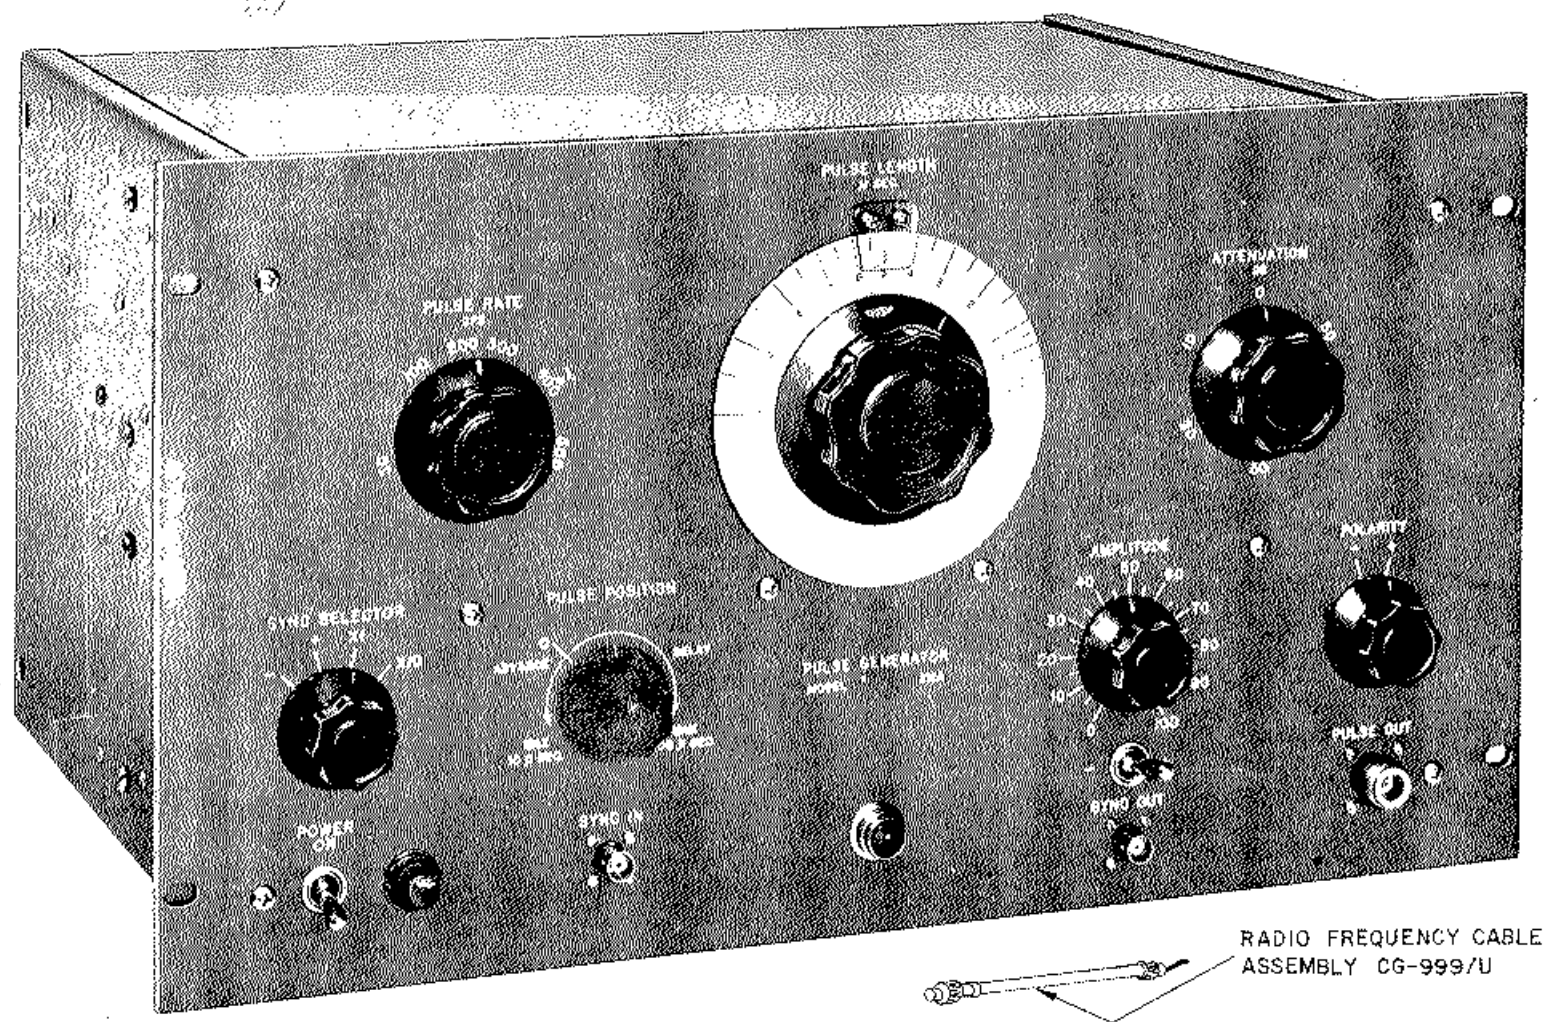

Figure 1-1. Generator, Pulse AN/PPM-1.
a. This manual describes Generators, Pulse AN/PPM-I and AN/PPM-IA and covers their installation, operation, and operator, organizational, direct support, and general support maintenance. Generator, Pulse AN/PPM-I (fig. 1-1) is an operating set consisting of Generator, Pulse SG-69/PPM-1, Cable Assembly, Radio Frequency CG-999/U, and running spares. Generator, Pulse AN/PPM-IA consists of Generator, Pulse SG-69B/PPM-1 (fig. 1-2), Cable Assembly, Radio Frequency CG-2120 and running spares. Since Generators, Pulse AN/PPM-1 and AN/PPM-IA are similar, information contained in this manual applies to both pulse generators, unless otherwise specified.